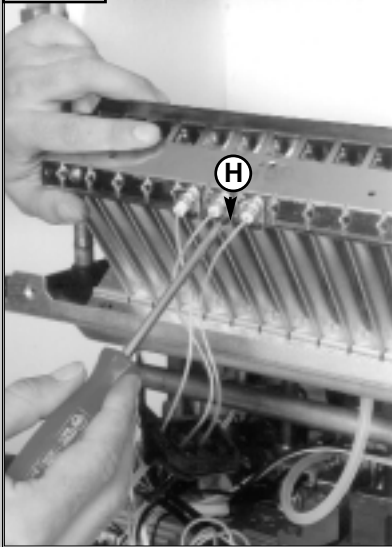

FIG. 1.16
4. Gently slide the electrode downward (FIG. 1.16).